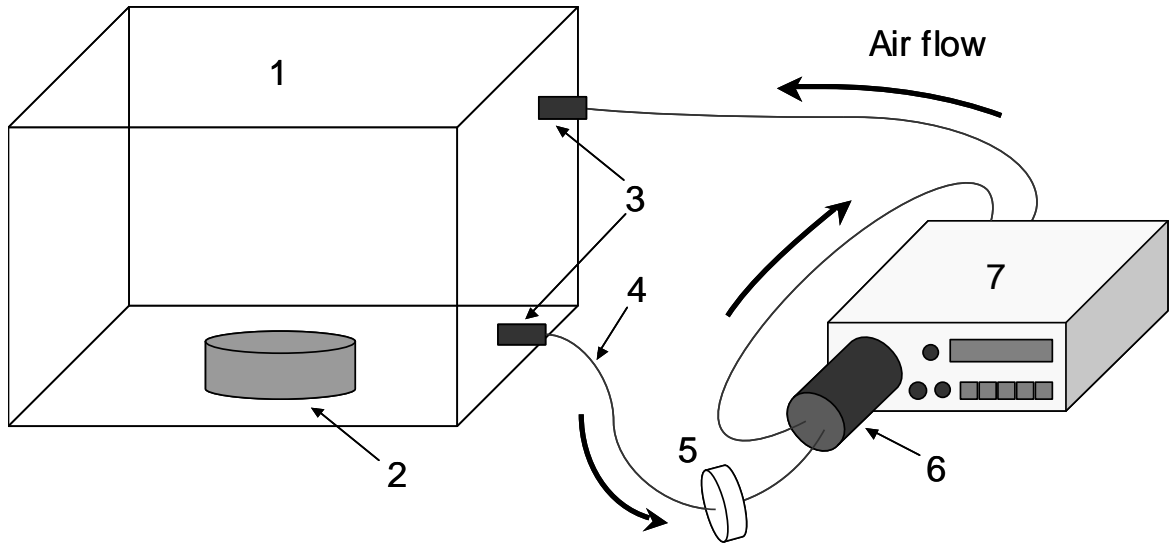

Fig. 1
Fig. 1 Schematic of apparatus used to measure radon emanated from the sample. (1) Chamber. (2) Sample. (3) Valve. (4) Plastic tube. (5) Air filter. (6) Scintillation cell. (7) Radiation monitor.